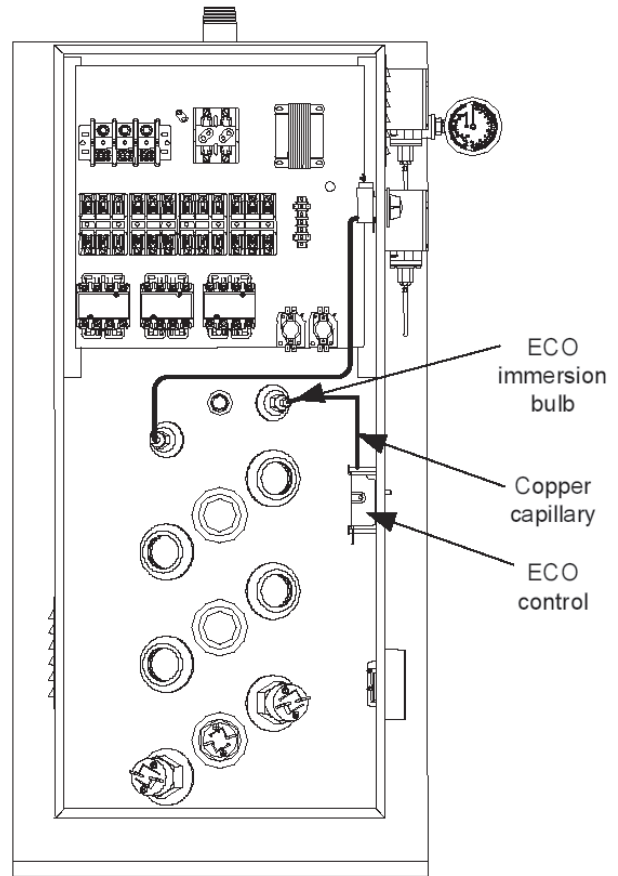

Figure 12
3. Turn off cold water supply to heater. Connect hose to drain spigot of water heater and route to an open drain. Open a nearby hot water faucet to vent heater for draining. Open the drain spigot of the water heater and allow heater to drain to a point below the Immersion bulb location (see Figure 12).
5. Locate High-Limit Control inside the lower control box mounted to the right inside surface of control box (see Figure 12).